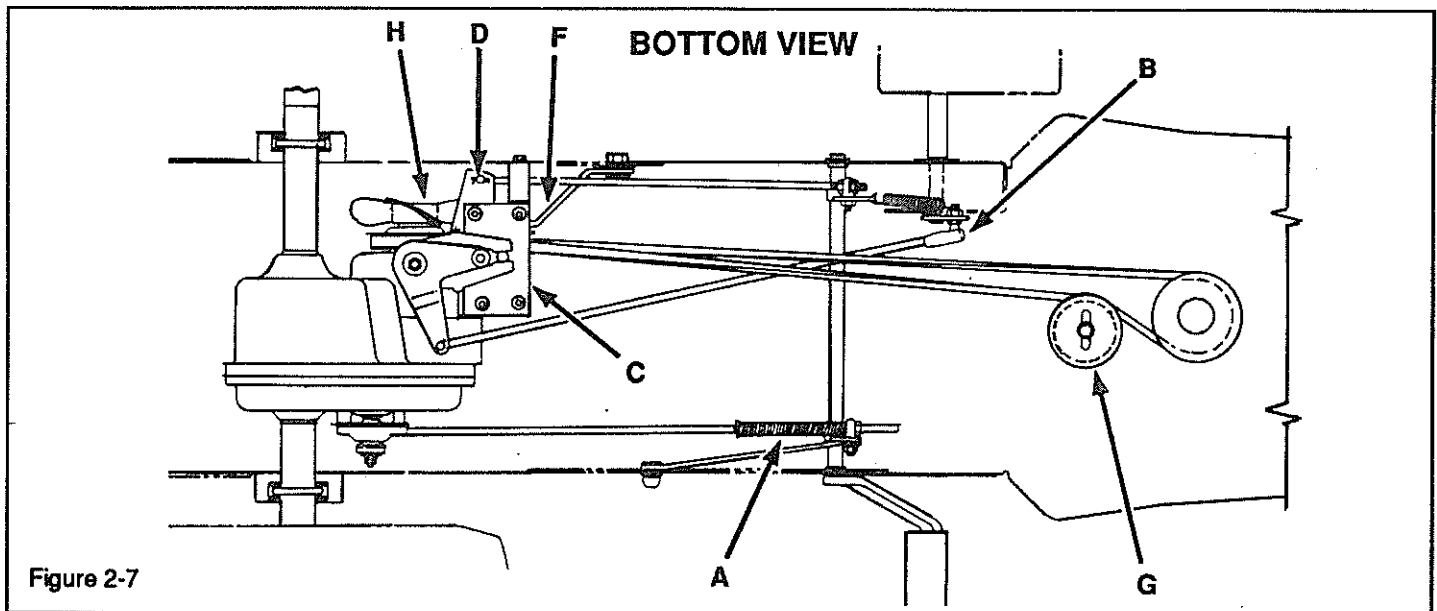

Figure 2-7
- b. Adjust support plate (C, Figure 2-7) side to side until wheels do not rotate.
2. Adjust rod (D, Figure 2-7 and 2-8) until control pin (E) of neutral plate (D) is in slot. Make sure plate is free of all binding.
Idler arm (F) should always be parallel with lower edge of frame. If not, relocate adjustable idler (G, Figure 2-7). See also Figure 2-9.